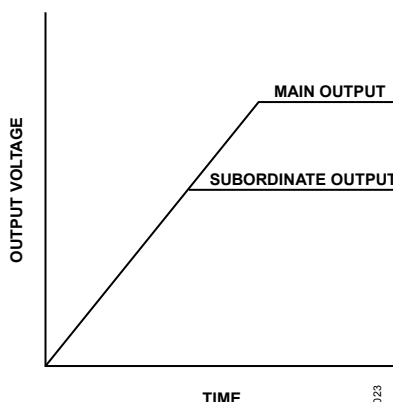

Figure 23. Output Coincident Tracking Waveform
Coincident output tracking is recognized as a special ratio metric output tracking in which the main device output slew rate (MR) is the same as the subordinate device output slew rate (SR), waveform as shown in Figure 23.